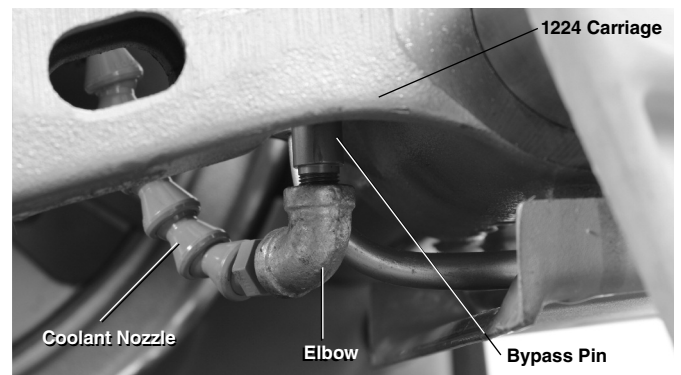

Figure 3 – Bypass Pin Installed
2. Insert bypass pin into oil bypass hole on the underside of the carriage. Orient elbow towards carriage handle. Use hammer to securely tap pin into hole (Figure 3).